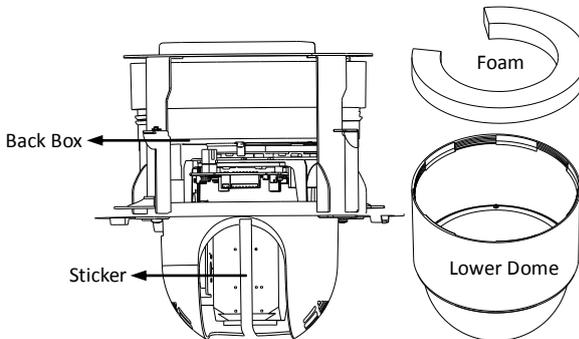

Figure 2-7 Remove the Protective Accessory
1. Rotate the lower dome counterclockwise to separate it from the back box as shown in Figure 2-7.